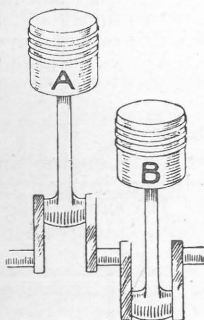

Fig. 9.
site each other, so that when one piston is at the top of its stroke, another is at the bottom. Fig. 9 shows a diagram of a two-cylinder motor, the pistons and connecting rods being shown attached to the crankshaft with the cylinders removed. Suppose the piston (B) has just finished its firing stroke. While it is ascending again on its exhaust stroke, the piston (A) will descend on its firing stroke. Then, while B is on the suction stroke, A is on the exhaust stroke, and so on. The following table will make the matter quite clear:—